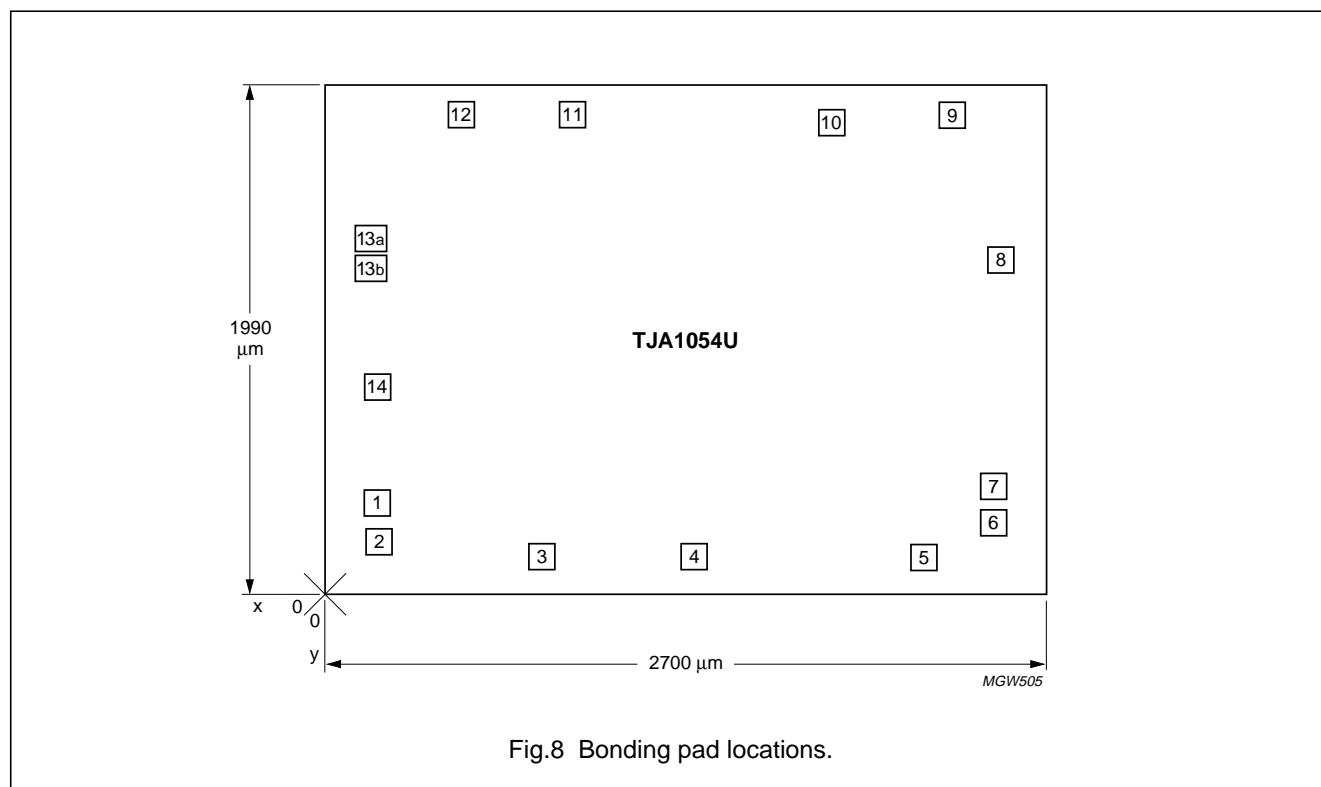

Fig.8 Bonding pad locations.
1. All coordinates (μm) represent the position of the centre of each pad with respect to the bottom left-hand corner of the top aluminium layer (see Fig.8).